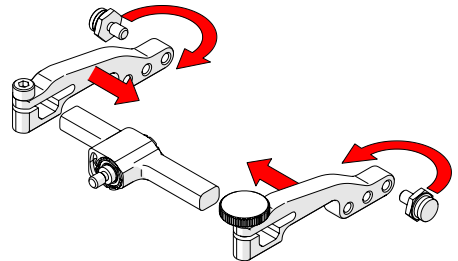

Fig. 149 - Attach arms and move buttons
4. Place the pivot buttons on the inside of the probe holder arms (*Fig. 149*) using a 3/8 in wrench (*Fig. 52*). Slide the arms onto the yoke and tighten the probe holder arm adjustment knob and the arm clamp screw.